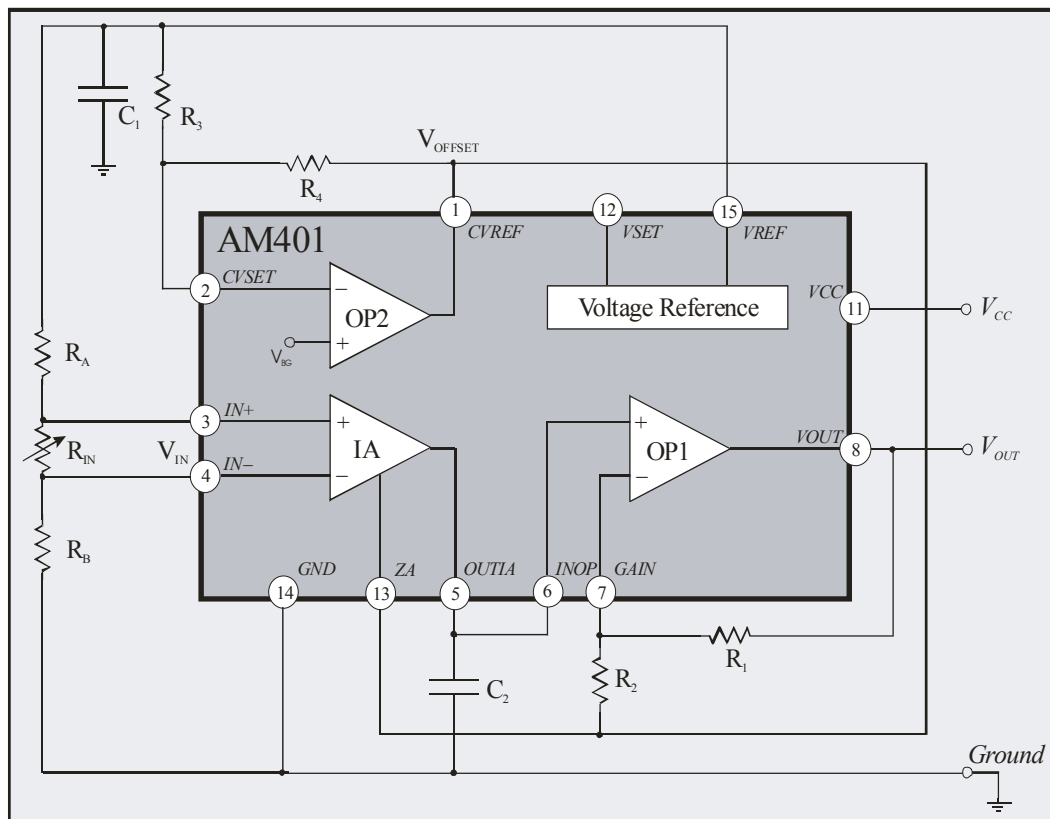

Figure 2: The general functions of AM401
1. The core element of AM401 is its high-precision *instrumentation amplifier* (IA) with an internal gain of G_{IA} and the ability to set the reference potential of the amplifier externally (pin ZA). The IA acts as an input stage for differential voltage signals.
2. There is also an *operational amplifier stage* (OP1). OP1's gain of G_{OP1} can be set using external resistors R_1 and R_2 (see Figure 2). The operational amplifier output has been designed in such a way that with certain loads it can be set down to zero. In addition, the output stage can drive up to a maximum of 10mA without an external transistor having to be connected. An output current limit has been implemented as a protective feature which guards the IC at the output in the event of a short-circuit.
3. AM401's *voltage reference* permits voltage to be supplied by external components (such as sensors, microprocessors, etc.). The reference voltage V_{REF} has a value of either 5V or 10V. External capacitance C_1 acts as a reference voltage stabilizer. It **must** also be connected when the voltage reference is not in use (see: Figure 2).
In compliance with Figure 2 the transfer function for AM401 when used as an amplifier for differential signals with a voltage output is:
with an offset voltage of V_{ZA} which can be set at pin ZA. With the circuitry shown in Figure 2 and using the additional operational amplifier the offset voltage is determined thus:
The gain of operational amplifier stage OP1 can be set using the suitably selected external resistors R_1 and R_2 . If OP1 is connected up as a non-inverting amplifier (see: Figure2) output voltage V_{OUT} at pin V_{OUT} is calculated as follows: